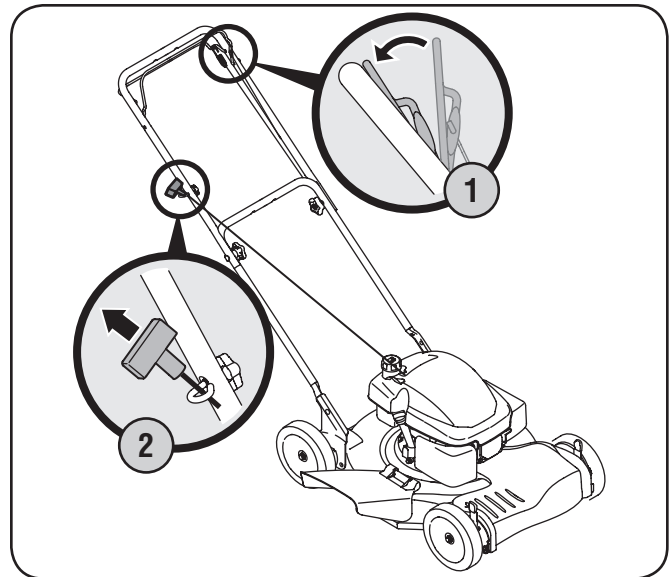

Figure 5-1
2. Pull the recoil starter lightly until resistance is felt, then pull rapidly to overcome compression, prevent kickback, and start the engine. Repeat if necessary. See Fig. 5-1.